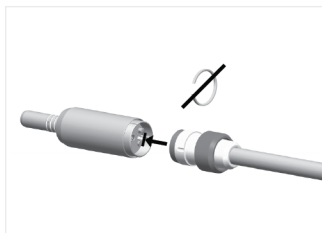

FIG. 2
2. Connect (without the split ring) the motor to the proprietary hose as shown in FIG. 2.